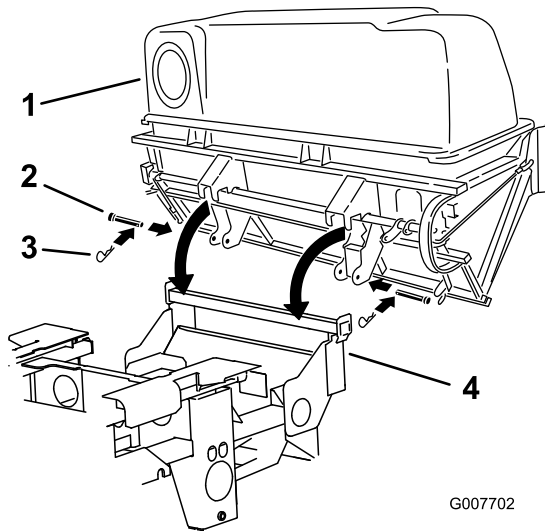

Figure 10
1. Install the bagger assembly onto the bagger mounting bracket (Figure 10).
2. Install the 2 clevis pins into the bagger assembly and bagger mounting bracket. Secure it with 2 hairpin cotters (Figure 10).